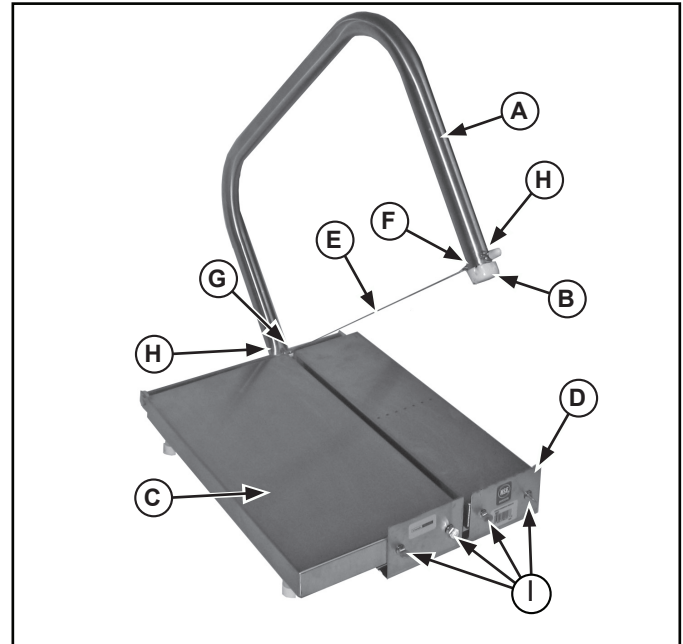

Figure 1. Features and Controls of the Cheese Blocker.
2. Before each use, check that the unit is clean and the cutting wire (E) is in good condition. If loose or broken, the cutting wire must be replaced. See Figure 1.
4. Lift the cutting bow assembly (A) and place the food product on base assembly (C) and against the front plate (D).
5. Using a slow, consistent movement draw the cutting wire (E) through the food product.